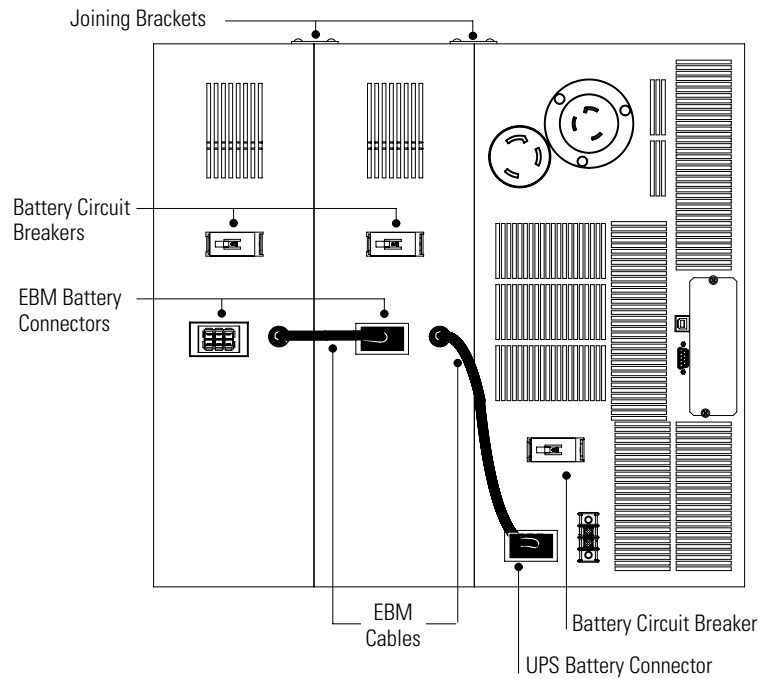

Figure 21. EBM Connections
1. Switch all battery circuit breakers to the OFF (O) position (see Figure 21).
7. Plug the new EBM into the UPS as shown in Figure 21.